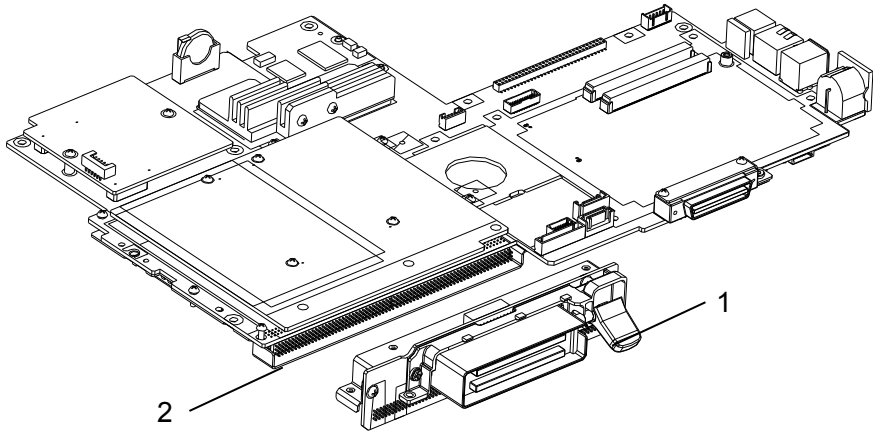

Fig 4-35 Remove the Transducer Board (2)
3. As shown in Fig 4-35 Remove the Transducer Board (2), pull out the transducer board from the main board with two hands, use force evenly to prevent damaging the connector pins.